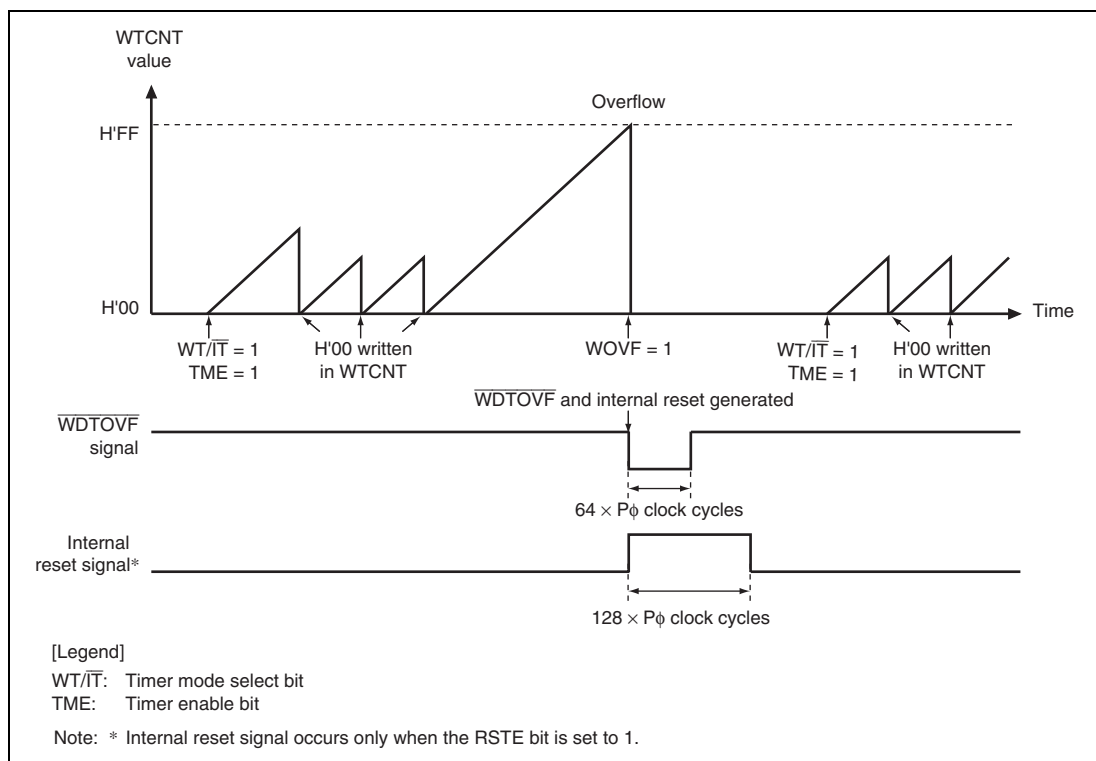

Figure 14.4 Operation in Watchdog Timer Mode
4. When the counter overflows, the WDT sets the WOVF flag in WRCSR to 1, and the \overline{WDTOVF} signal is output externally (figure 14.4). The \overline{WDTOVF} signal can be used to reset the system. The \overline{WDTOVF} signal is output for $64 \times P\phi$ clock cycles.